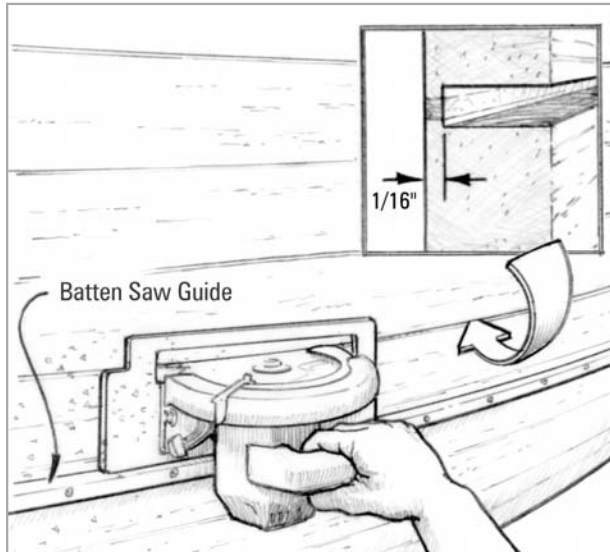
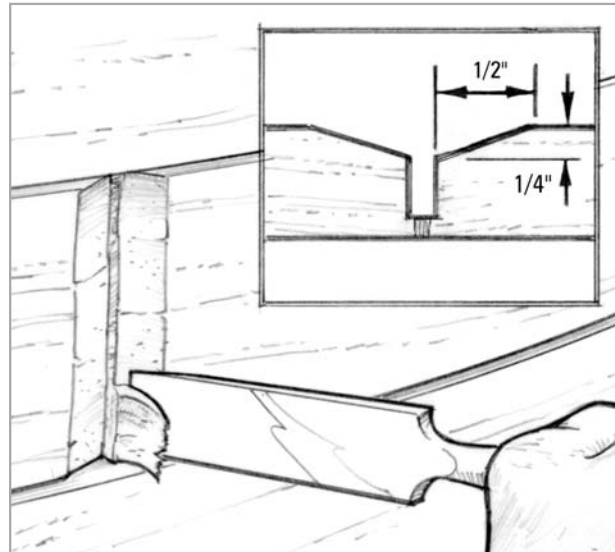

Figure 5-1 Use a circular saw to clean out plank seams.
Figure 5-2 Cut a bevel on the end of each plank.
5. Clean out each seam by running the saw along the batten (*Figure 5-1*). Check the depth and width of the cut. Clean out the butt joints at the ends of the plank as well. Chisel a shallow bevel on the end of the planks ($\frac{1}{4}$ " deep x $\frac{1}{2}$ " back from the edge) (*Figure 5-2*). The bevel increases bonding area and reduces stress at the joint.